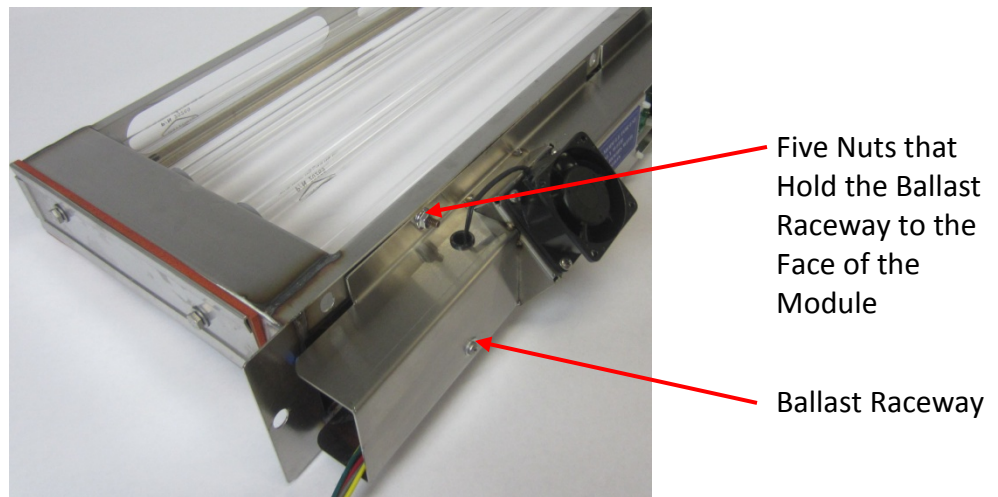
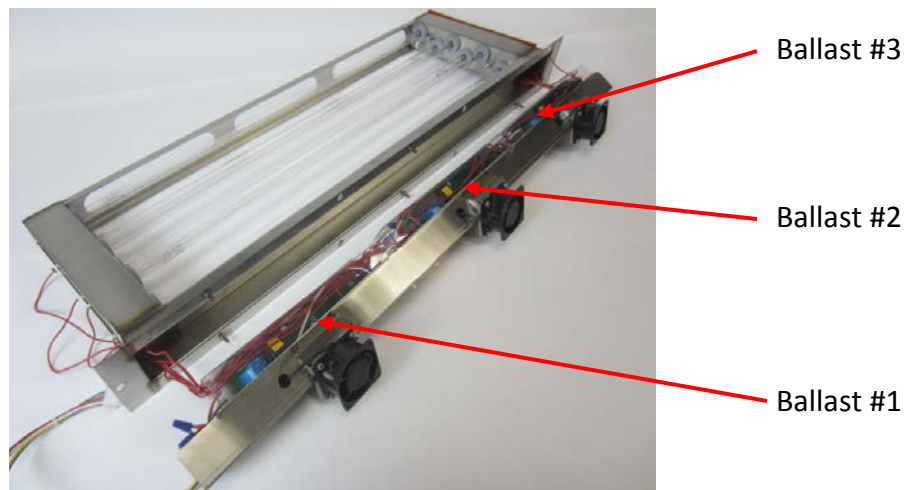

Figure 6-22-1
Figure 6-22-2
7. Next the Ballast Raceway must be removed. Using a wrench, remove the five nuts that hold the raceway to the face of the Module (Refer to Figure 6-22-1). Gently pull the Ballast Raceway off the Module as shown in Figure 6-22-2.